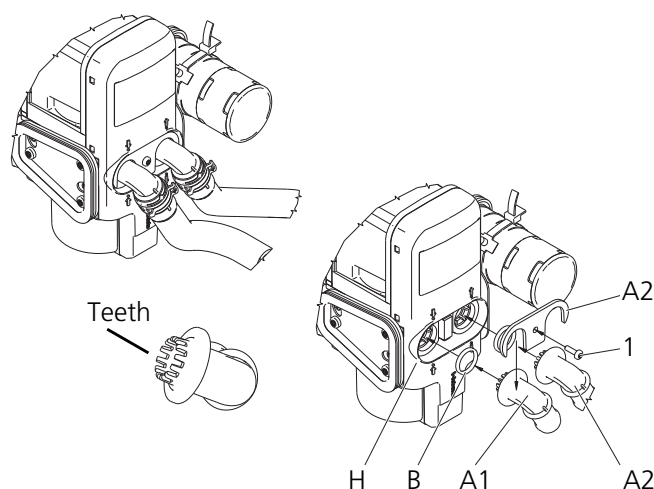

Fig. 903 Installing water connection-piece variant A with teeth
1. Moisten new O-rings (B, Fig. 903) with coolant and lay in heat exchanger (H).
2. Insert water connection pieces (A1) and (A2) with retaining plate (A3) in heat exchanger (H, Fig. 903).
4. Guide screw (1) into hole and screw on with 4.5 Nm. Connection piece and retaining plate must be held down while screwing on.